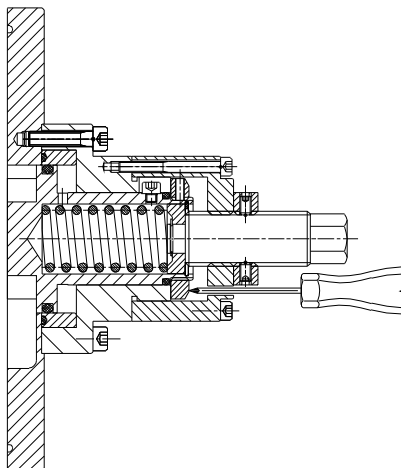
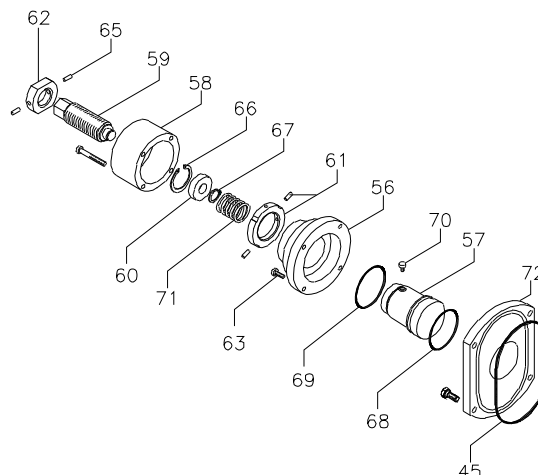

Fig.3.1
Fig.3.2 Relief valve and manual by-pass valve
2.7.2 - Adjustment of the internal relief valve fig. 3.2
- 2 - Tighten the adjusting screw (59) by gradually putting the spring under pressure, checking that the pressure at the outlet port of the pump does not exceed the maximum allowed pressure.
- 3 - By operating the adjusting screw and checking with a probe (see fig.3.1), find the critical opening point of the valve at the desired pressure.
- 5 - Position the adjustment retainer (62) and lock it with the special screw (65).